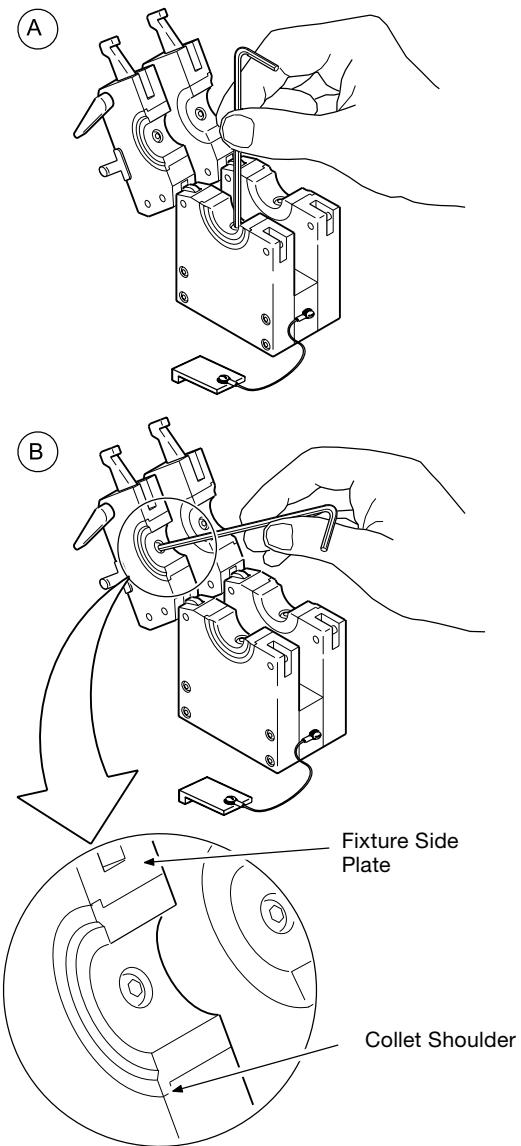

Figure 13 *Installing Collets*
2. Install the collet halves in both the top and bottom side plates and tighten the collet screws. Make sure the collet shoulder is flush against the fixture side plate. See Figure 13.